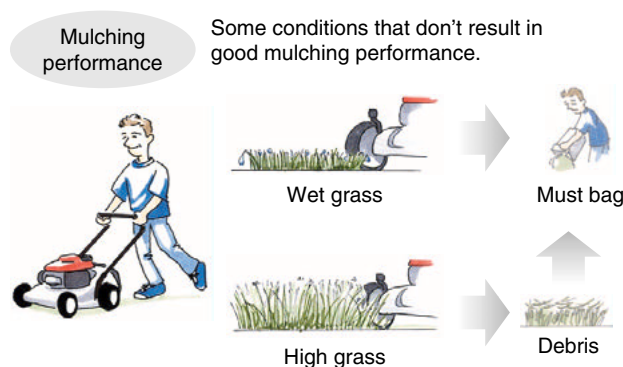

Fig. 1 Mulching performance
Approximately 5 million lawnmowers are purchased in the USA each year. As part of our lawnmower developments, we strive to provide new and innovative features to improve the lawn mowing experience for our customers. It was during interviews with customers that we noticed an increasing number of lawnmower users that want to be able to bag a portion of their lawn and mulch the remaining (Fig. 1). The existing models can accommodate this situation, but the customer is required to remove parts from the mower and store them. Many times these parts are lost or inconvenient when the customer is ready to change modes.^{(1), (2)} From this customer demand, the variable mowing system (VMS) (Fig. 2) was developed, and this report will detail the background of this development.